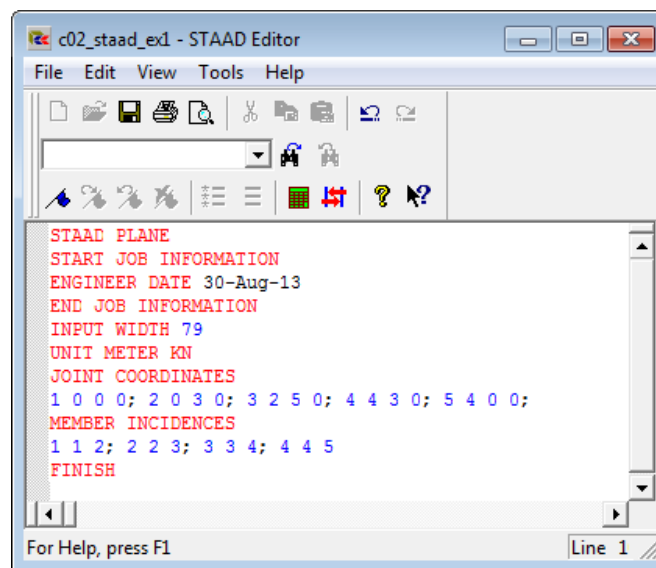

Figure 2-8 Commands for creating the members in the **STAAD Editor** window
Step 2 : Invoke the **STAAD Editor** window and specify the commands for creating the members, as shown in Figure 2-8.